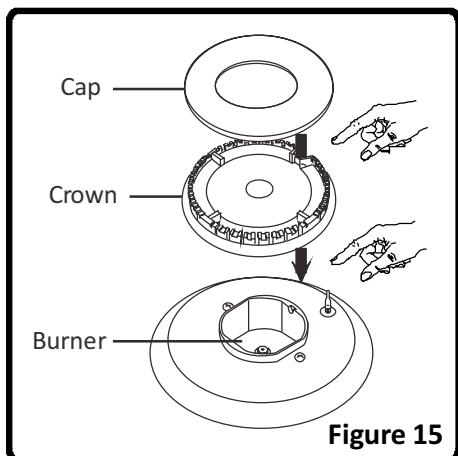

Figure 15
After the ignition, check the flames visually. If you see yellow tip, lifted or unstable flames; turn the gas flow off, and check the position of burner caps and crowns (fig.15). Take note: these are very hot, let them cool to avoid burning yourself. Be careful that no liquid flows inside the burners. If the flames accidentally escape from the burner, close the valves, ventilate the kitchen with fresh air, and wait at least 90 seconds before re-igniting. To stop the cooking, turn the burner lever clockwise until the mark on the lever is facing the point "0" (lever mark up).
- Remove enamelled grilles, burner caps and crowns(Figure 15).